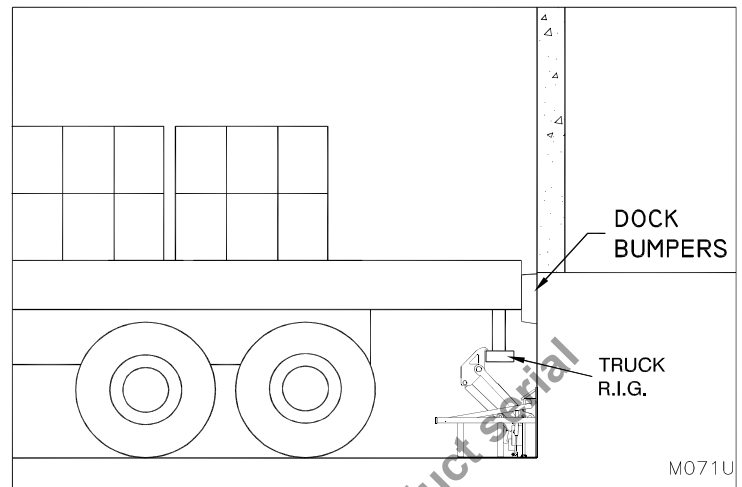

Figure 16: Vehicle Ready to Load/Unload
3. Visually confirm that the restraint has properly engaged the rear impact guard (see “Figure 15: Vertical Locking Arm Position” on page 18 and “Figure 16: Vehicle Ready to Load/Unload” on page 18), before loading or unloading. If unable to properly engage the vehicle with the restraint, other suitable means must be used to restrain the vehicle (see “Figure 18: Secure Trailer by Other Suitable Means” on page 19).